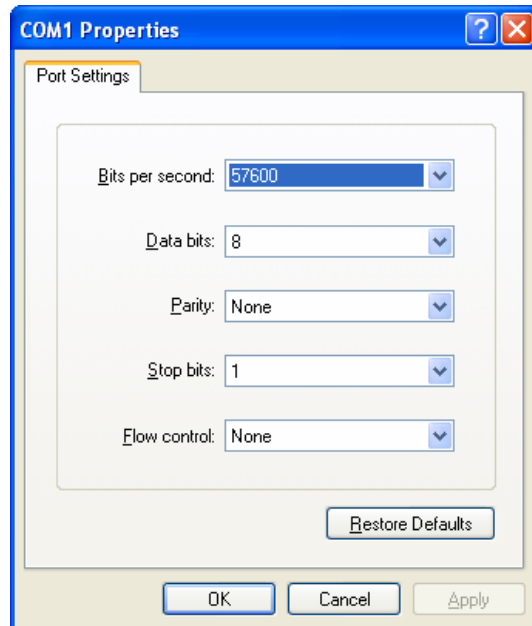

Figure 1 Com port settings
2. Start a terminal program on the PC (like Microsoft HyperTerminal) for each board. Settings should be as shown in figure 1 and 2.